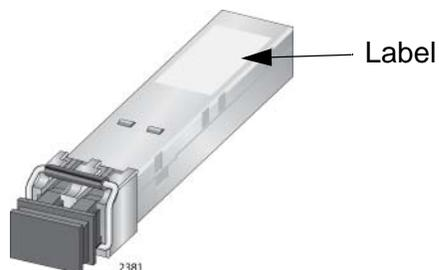

Figure 88. Labels on SFP and CSFP Transceivers
3. To install an SFP or a CSFP transceiver in a slot on the top row of the line card, orient it with the label on top, as shown in Figure 88 on page 152. To install it into a slot on the bottom row of the line card, orient it with the label on the bottom.